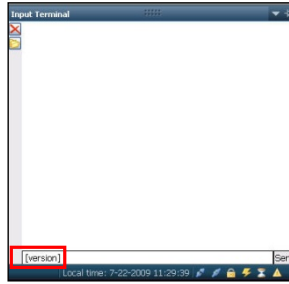

Figure 13: Version Command
26. Type [VERSION] in the field at the bottom of the *Input Terminal* window (see Figure 13).